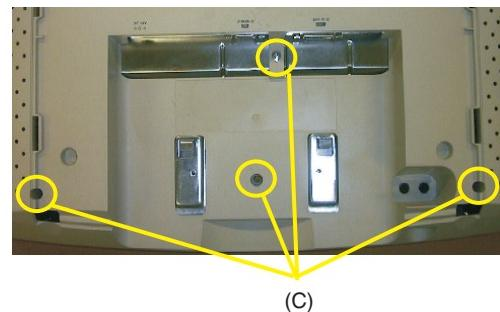

Fig. 4
Step 2 : Remove four screws (C). See Fig. 4